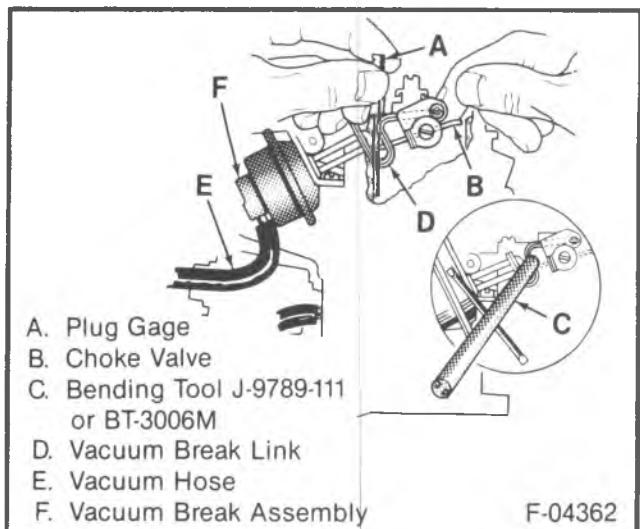

Figure 42 - Vacuum Break Adjustment
- If an adjustment is needed, bend the vacuum break link at the point shown in inset, Figure 42.